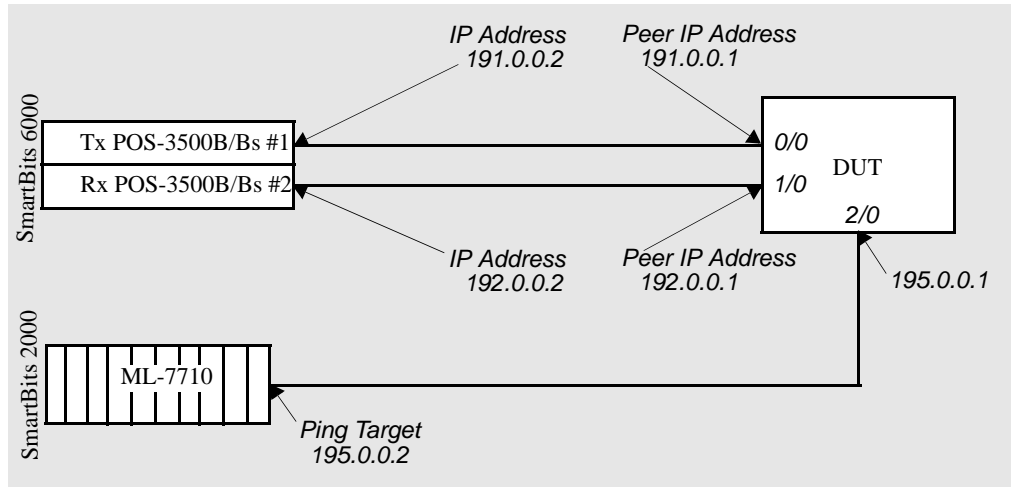

Figure 11-12. POS "Card" IP Address Configuration
Figure 11-12 on page 585 illustrates how these fields are applied in a test environment.
- 9 Click the **Address** tab and type in any IP addresses that the network may need in order to function as shown in *Figure 11-12*.
To configure a card to receive, repeat the procedures in “*Set up Line Parameters*” on page 582 and use the information in *Figure 11-12 on page 585* to set the card IP addresses.
Set up the port IP addresses using *Figure 11-12 on page 585* as a guide.